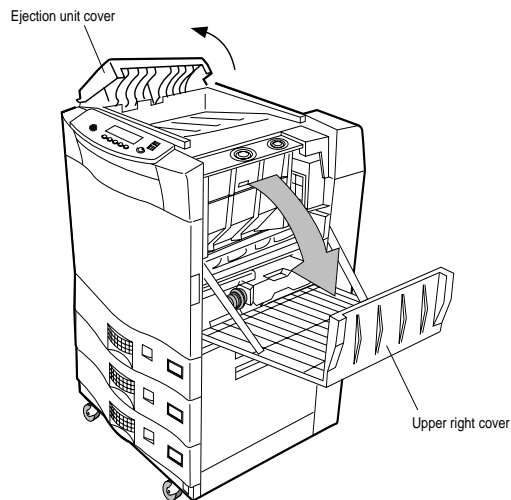

Figure 4-36 Open Covers
2. Open the ejection unit cover. See Figure 4-36.